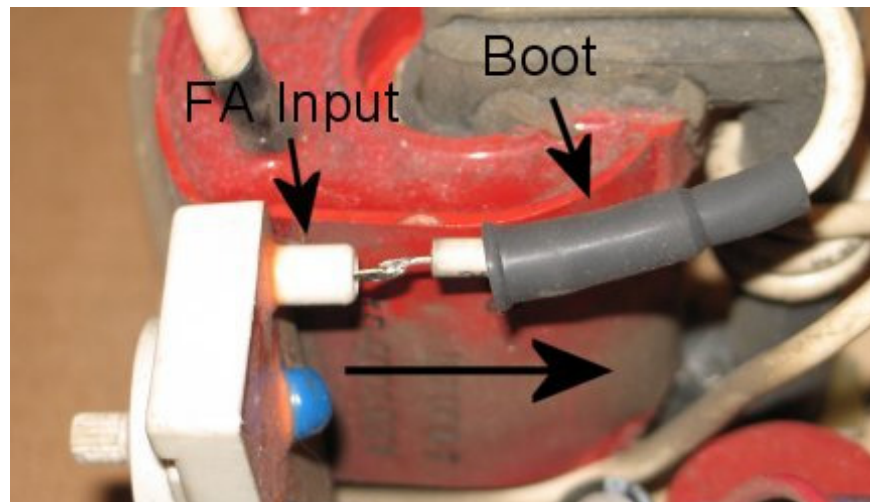

Figure 2: Flyback / Focus Assembly Connection
1. Unsolder and remove the white wire going between the original Flyback and the Focus Assembly input terminal (topmost connection), and retain the rubber boot (See Figure 2), which will be used later.
10. Solder this remaining Flyback wire to the input lug on the Focus Assembly (the lug you disconnected in step 1) (See Figure 2).